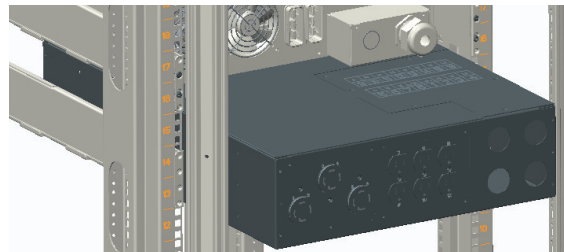

Figure 3. Push BPM into the Rack
3. Push the BPM past the back of the rack to allow access to the rear wire access-point covers and the wire access panel cover (see Figure 3).